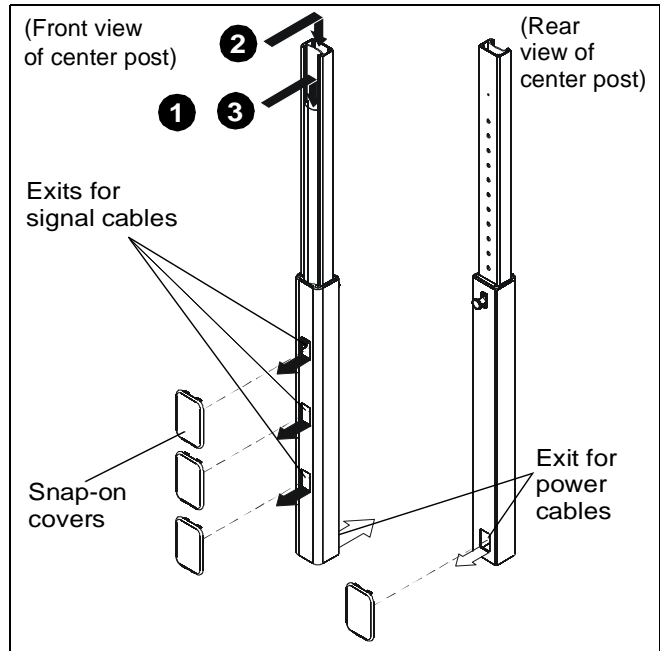

Figure 15
1. Signal cables can be run down the front flap of the center post and out the front of the post at any of the openings. (See Figure 15)
2. The display power cord can be run through the top and down through the post to exit out the back. (See Figure 15)
3. Any accessory power cords can be run through the front and down through the post to exit out the back. (See Figure 15)
4. Install the snap-on covers to any opening that is not being used. (See Figure 15)